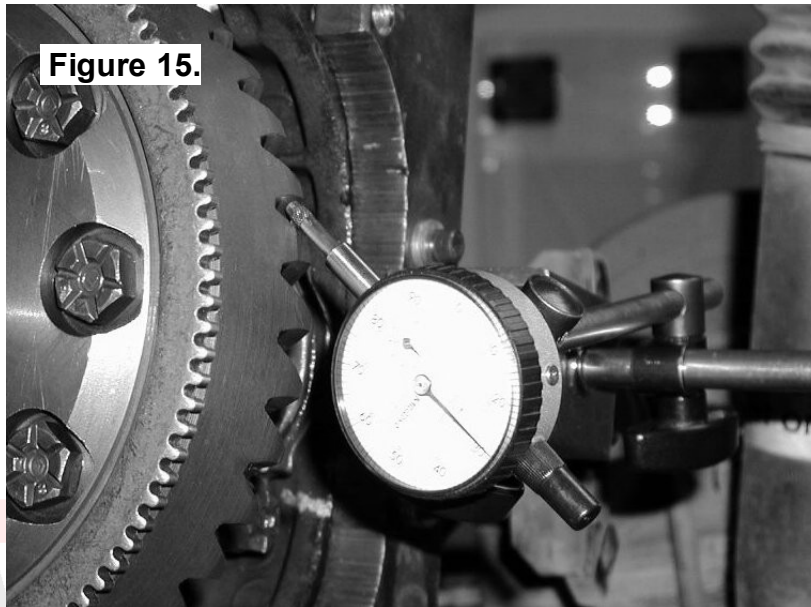

Figure 15.
- Set a depth indicator on one of the ring gear teeth as in Figure 15.